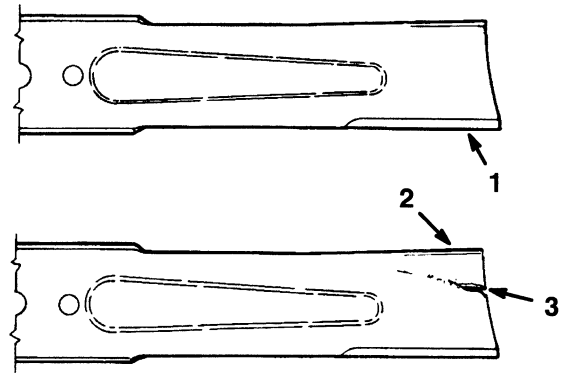

Figure 22
2. Inspect the cutting edges (Fig. 22). If the edges are not sharp or have nicks, remove the blade(s) and sharpen them; refer to Sharpening the Blade(s), page 19.
3. Inspect the blade(s), especially the curved area (Fig. 22). If you notice any damage, wear, or a slot forming in this area (Fig. 22), immediately install a new blade.